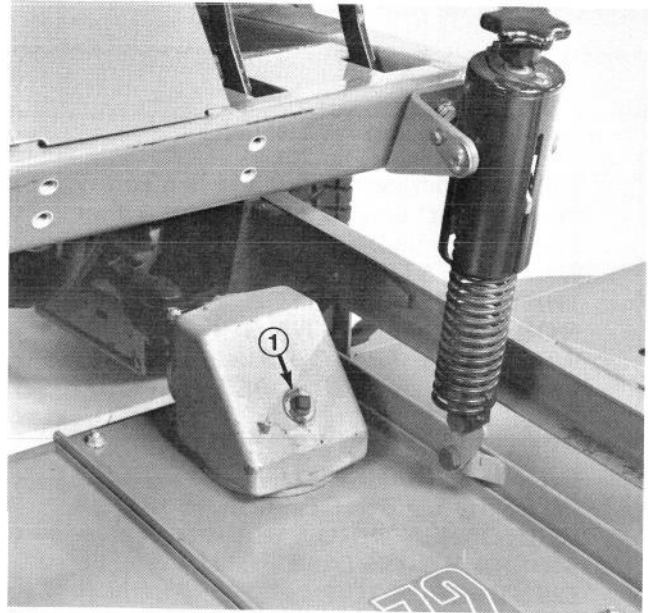

Figure 14
2. Lower cutting unit so castor wheels are on a level surface. Be sure all height-of-cut pins are in the same hole locations. Remove filler plug (Fig. 14) from gear box and check level of lubricant. If level of lubricant is low, add SAE 10W-40 or 10W-30 SF engine oil until level is up to bottom of filler hole. Wipe any metal particles off filler plug and install filler plug.